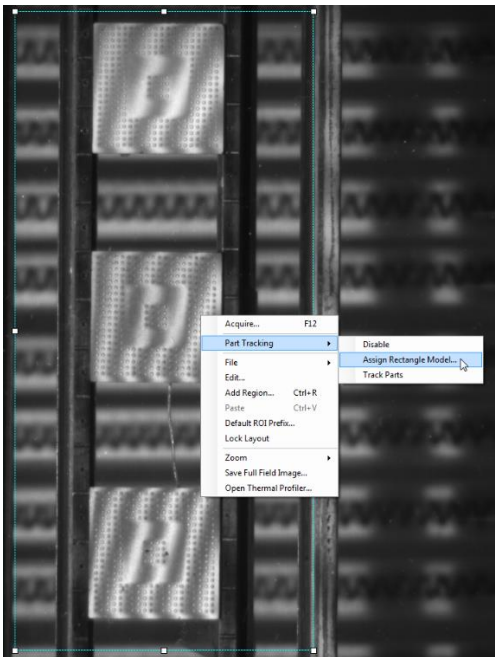
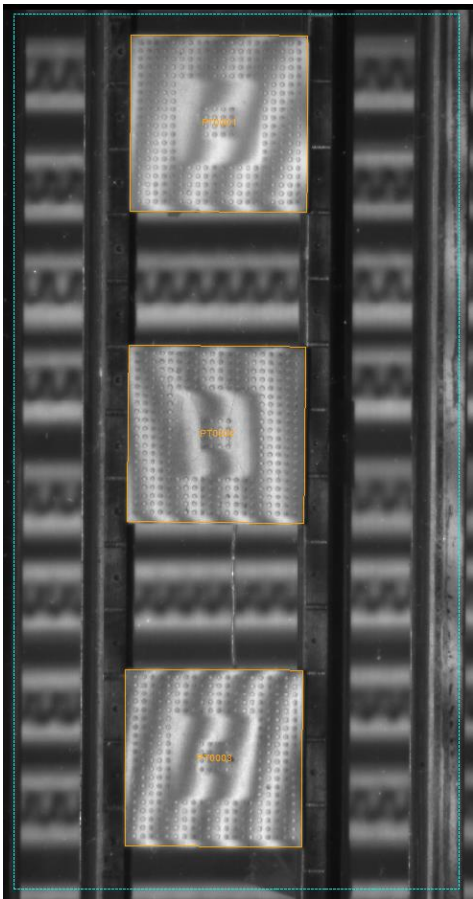

Figure 2.44 Assign Rectangle Model
Figure 2.46 Tracked Parts
3. Size the blue, dotted-line ROI such that it contains all parts that will be tracked. Right click inside this ROI and click 'Assign Rectangle Model' (**Figure 2.44**).
Note: Instead of immediate acquisition, which may incur a large processing time with large numbers of parts, the user can check part tracking settings by right-clicking on the camera context window and selecting the 'Track Parts' option shown in **Figure 2.44**. The currently tracked parts will be shown outlined in orange as shown in **Figure 2.46**